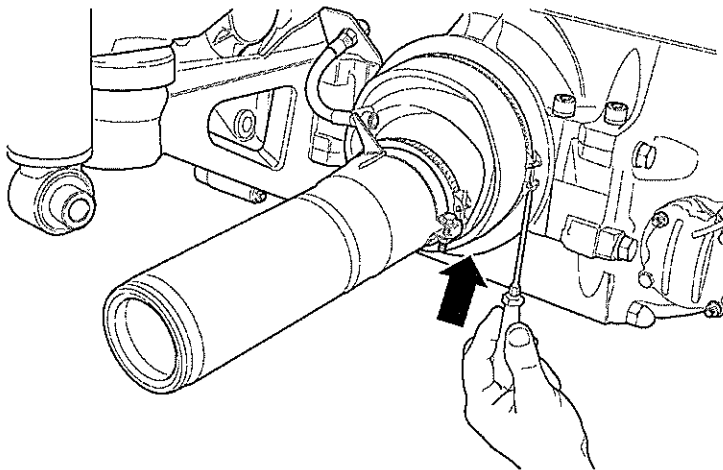

Fig 11 Removing axle rubber gaiter
- 17.3 Remove fastening straps and rubber gaiter (see Fig 11).